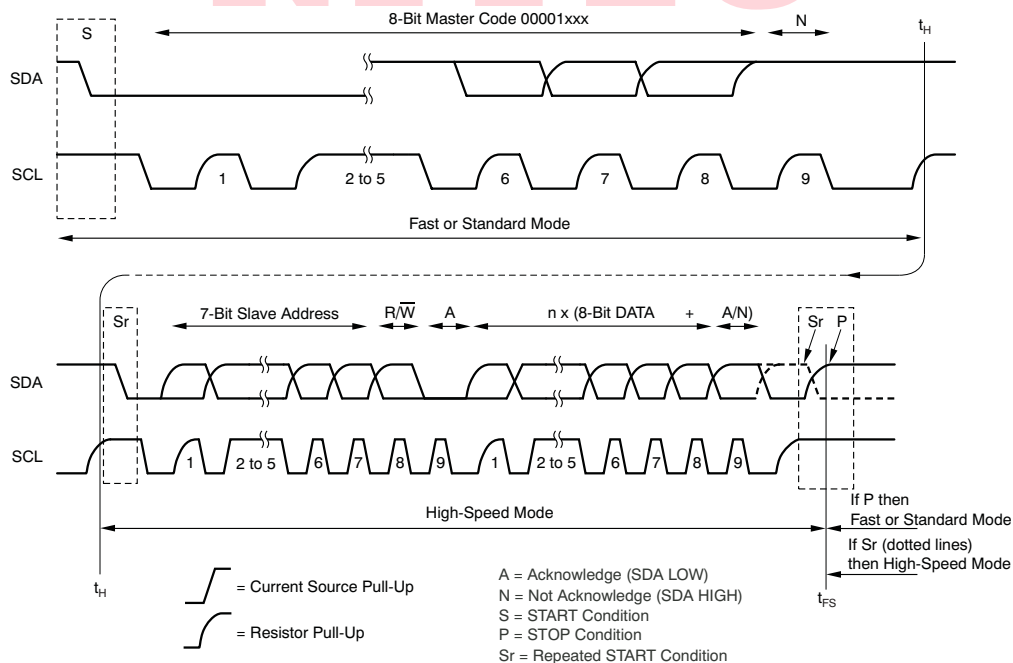

Figure 30. Complete High-Speed Mode Transfer
When the bus master sends the address byte with the  $\overline{\text{R}/\overline{\text{W}}}$  bit = 0, and the TSC2007 sends an acknowledge, the pen-interrupt function is disabled. If the command that follows the address byte contains  $\text{PD0} = 0$ , then the pen-interrupt function is enabled at the end of a conversion. This action is approximately 100 $\mu\text{s}$  (12-bit mode) or 50 $\mu\text{s}$  (8-bit mode) after the TSC2007 receives a STOP/START condition, following the receipt of a command byte (see Figure 31 and Figure 30 for further details about when the conversion cycle begins).
1. START condition (S)
3. Not-acknowledge bit (N)
Figure 30 shows this sequence in more detail. Hs-mode master codes are reserved 8-bit codes used only for triggering Hs mode, and are not to be used for slave addressing or any other purpose. The master code indicates to other devices that an Hs-mode transfer is about to begin and the connected devices must meet the Hs mode specification. Because no device is allowed to acknowledge the master code, the master code is followed by a not-acknowledge bit (N).
After the not-acknowledge bit (N) and SCL have been pulled-up to a HIGH level, the master switches to Hs-mode and enables the current-source pull-up circuit for SCL (at time  $t_H$  shown in Figure 30). Because other devices can delay the serial transfer before  $t_H$  by stretching the LOW period of SCL, the master enables the current-source pull-up circuit when all devices have released SCL, and SCL has reached a HIGH level, thus speeding up the last part of the rise time of the SCL.